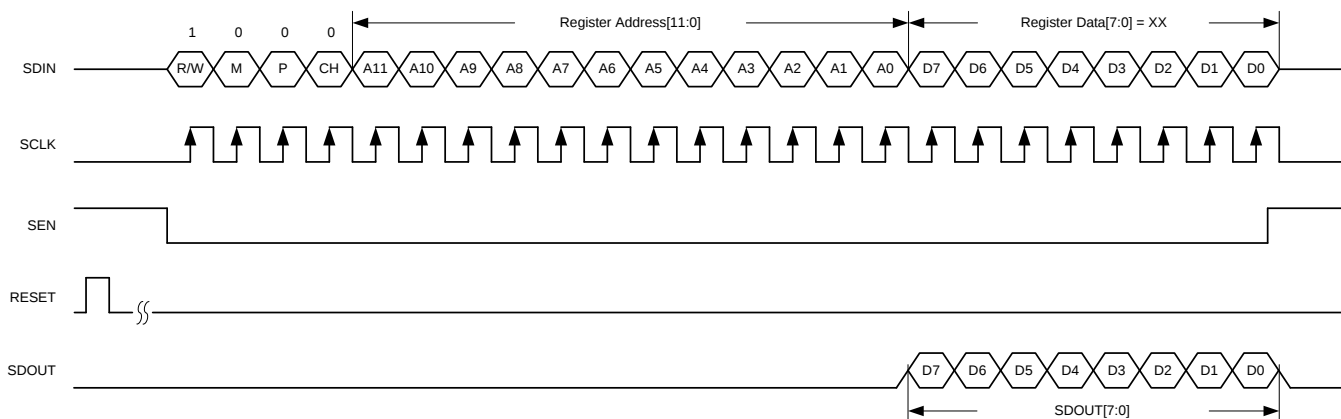

Figure 71. Serial Register Read Timing Diagram
4. Reading back the register content on the SDOUT pin, as shown in Figure 71. When a page is selected, multiple read backs from the same page can be done. SDOUT comes out at the SCLK falling edge with an approximate delay (t_{SD_DELAY}) of 68 ns; see Figure 75.